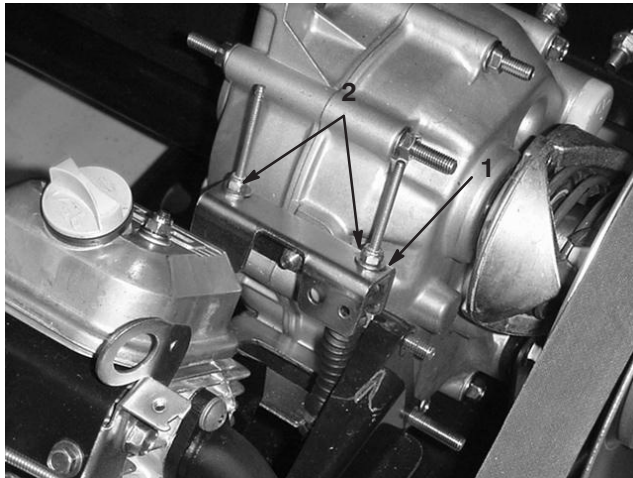

Figure 25
When performing routine maintenance and/or engine diagnostics, the transaxle must be shifted into neutral (Fig. 25). The vehicle has a neutral position on the shift lever, which controls the neutral in the transaxle. The following steps should be taken to make sure that the neutral shift lever operates the transaxle neutral correctly:
2. Ensure that the neutral bracket is in the neutral position (level) by turning the drive clutch (Fig. 25). The vehicle should not roll back and forth. If it does, manually move the neutral bracket to the neutral position.
3. Tighten one of the locknuts (Fig. 25) just enough to take the slack out of the shift cable.